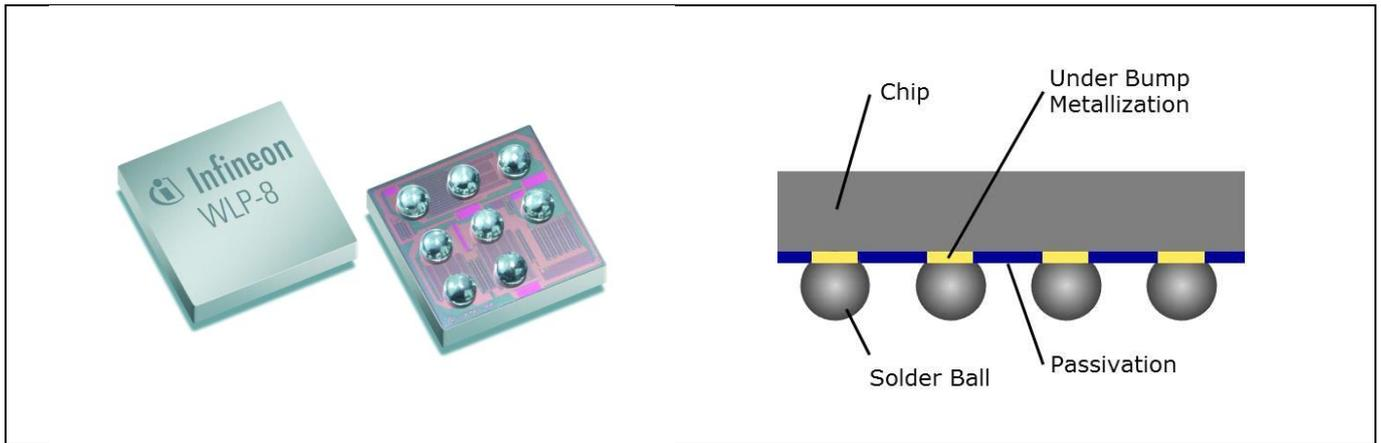

Figure 1 Illustration and schematic cross-section of an SG-WLP
- SG-WLP (please refer to Figure 1)